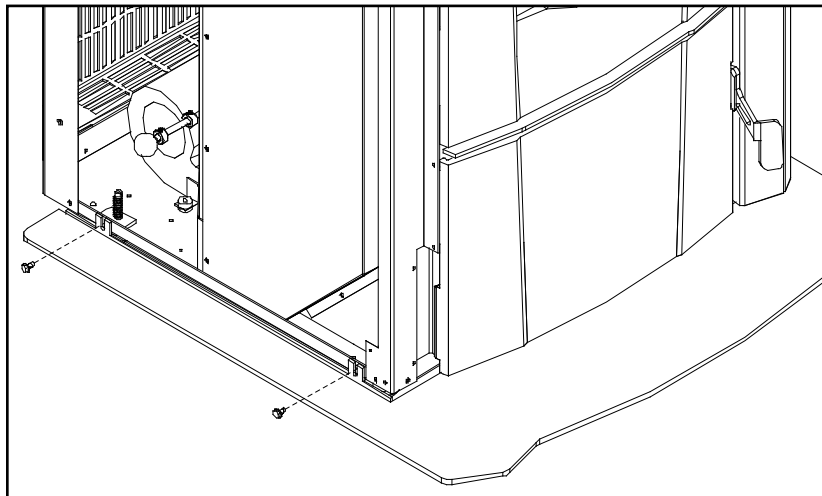

Figure 4: Omega Hearth Shield Installation.
1. Remove the right and left hand cabinet sides. Partially back out the two (2) T-20 Torx screws on the back of the each panel and the two (2) located on the front inside edge below the louvers and ash shelf. Pull the panel forward then remove.
3. Secure the shield to the unit with two (2) screws on each side (see Figure 4).